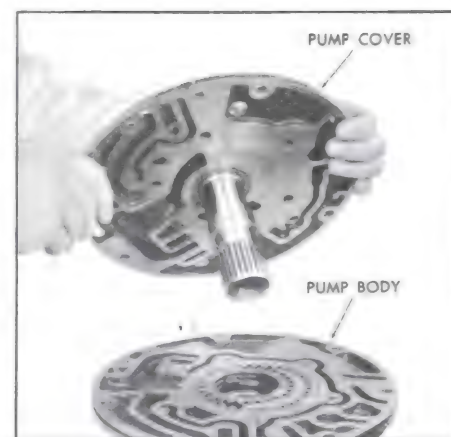

Figure 5-581
7. Remove pump cover from body. See Figure 5-581.